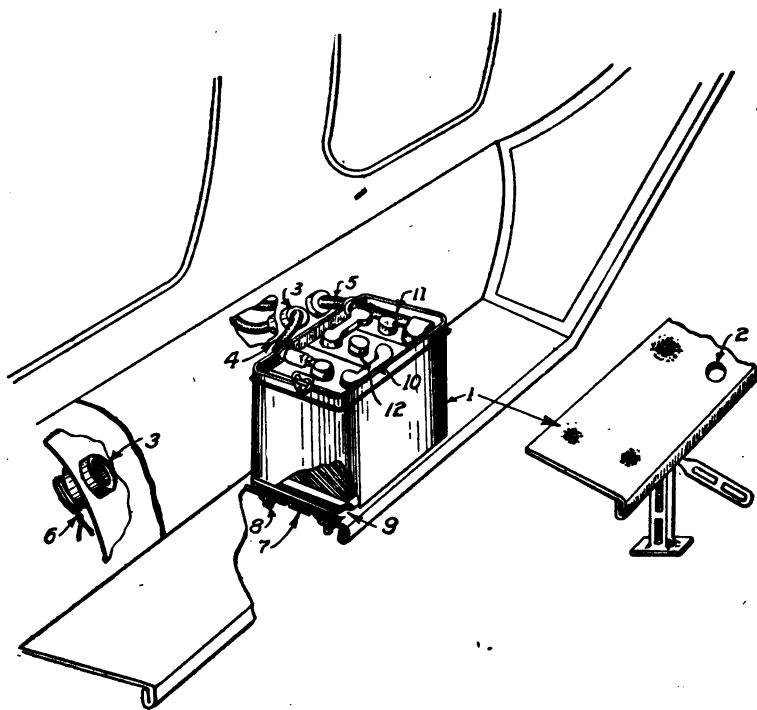

Fig. 377. Installing Gray & Davis Battery and Wiring
*Battery.* Place the battery box on the right-hand running board, Fig. 377, to permit easy opening of doors and access to battery box;